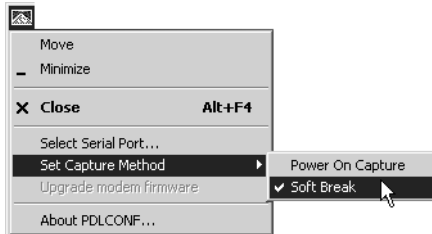

Figure 2-28. Set Capture Method->Soft Break
7. From the pop-up menu, click **Set Capture Method** ->**Soft Break** (Figure 2-28).